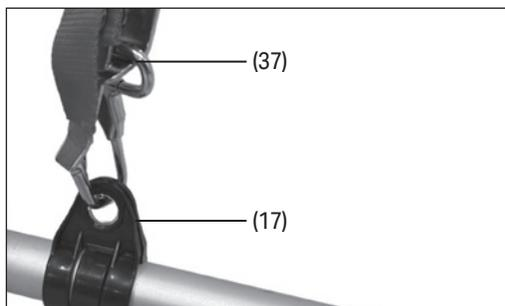

Fig.7
6.4 Attaching the Shoulder Strap (Fig.7)